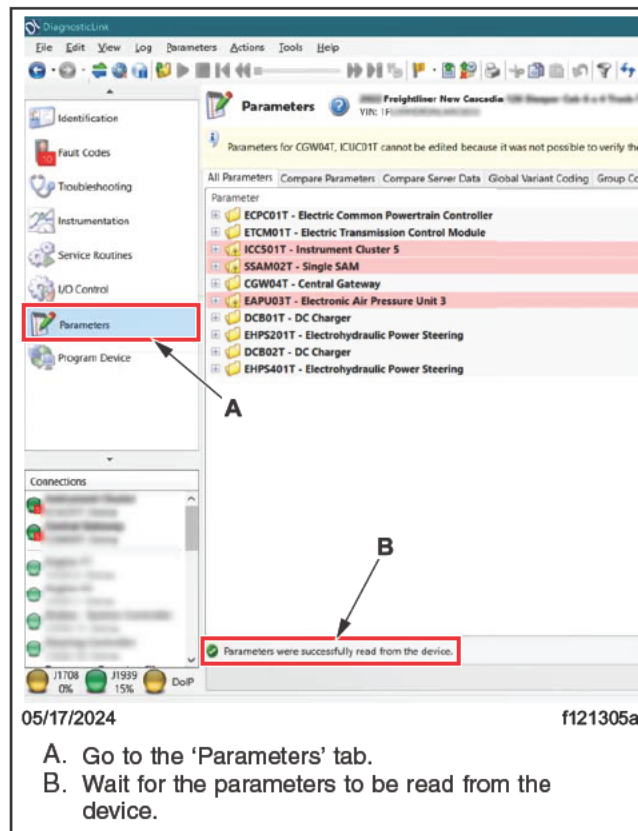

Fig. 21, Reading the ECU Parameters
5. Go to the 'Parameters' tab. See Fig. 21.